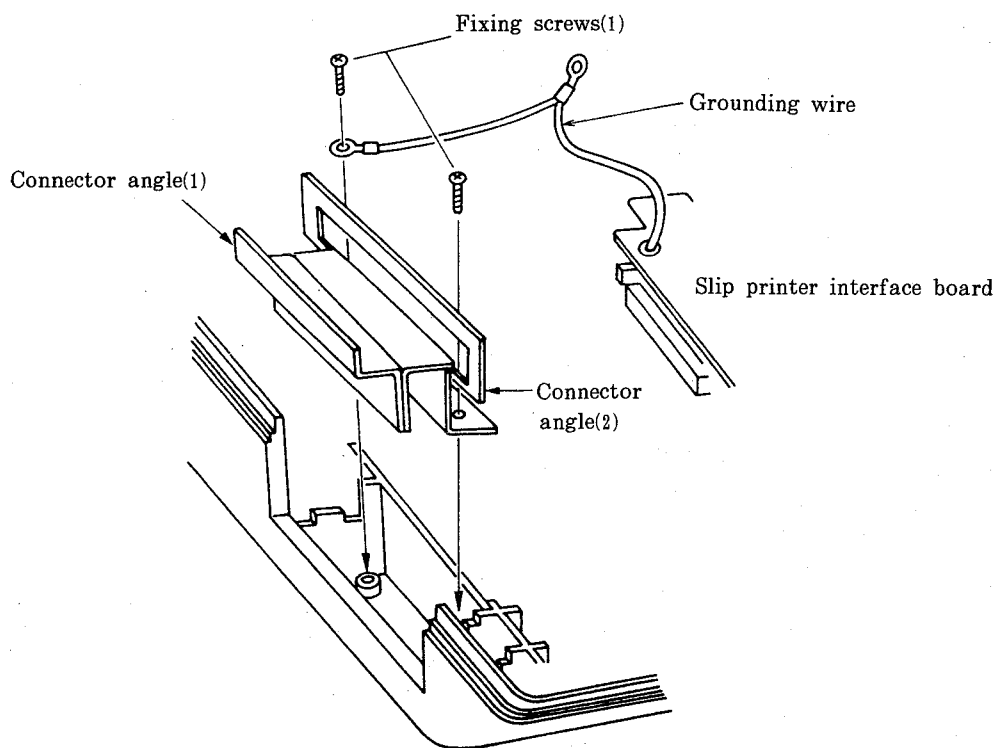

Fig.41
- 5) Mount the connector angles (1) and (2) and the grounding wire to the lower cabinet at the same time. (See Fig.41.)